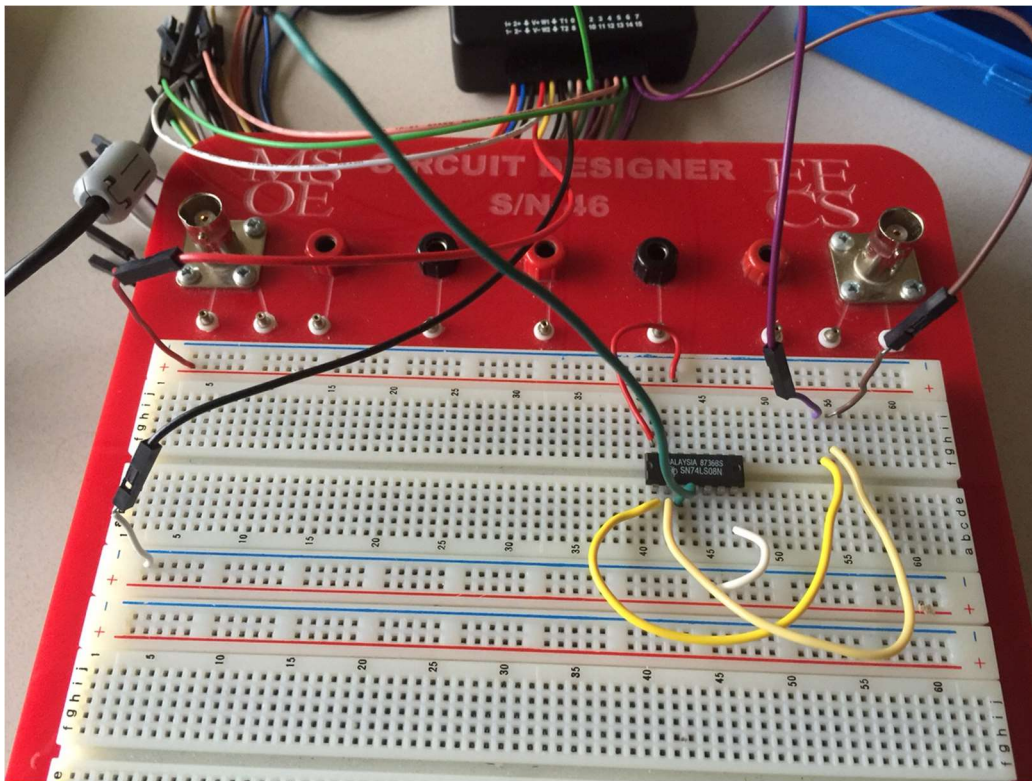
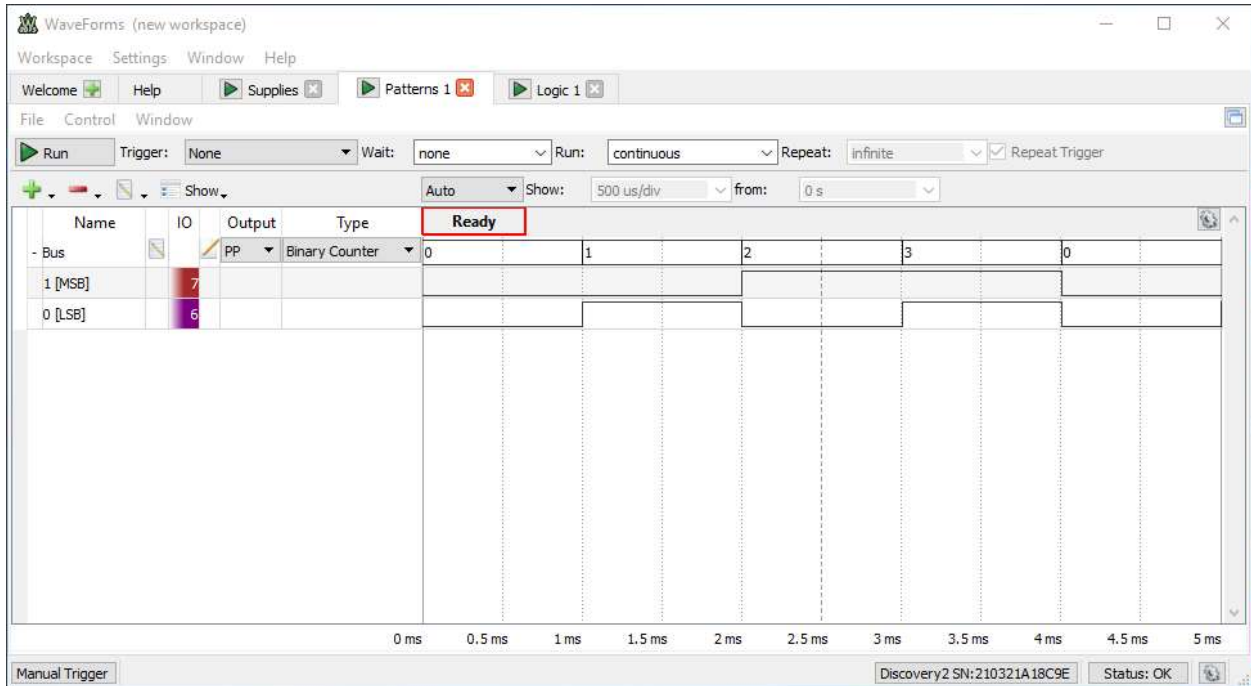

Figure 6: A 7408 AND IC Ready for Testing
Figure 7: The Patterns instrument configured to generate a binary count sequence on the circuit input signals.
6. **Build** the circuit shown in Figure 6. (**Remember: pre-lab read only. Build during lab.**)
- e. **Note** that a 2-bit number line appears on signals DIO7 and DIO6. Remember that these signals are wired to AND gate input A and AND gate input B. **Refer** to Figure 6 and Figure 7.